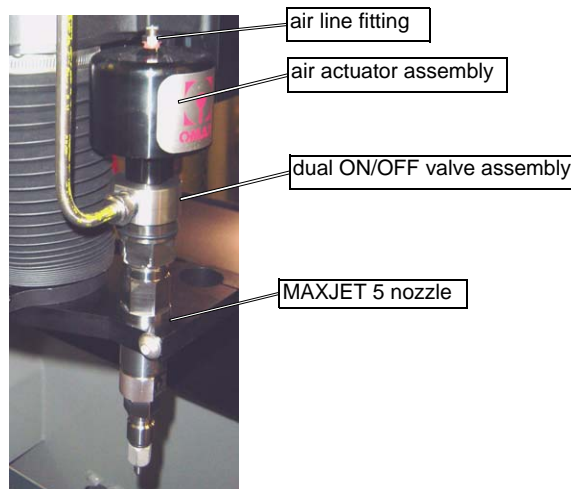

Figure 6-89: Dual ON/OFF Valve with the MAXJET 5 Nozzle
Figure 6-89 below illustrates an OMAX Dual ON/OFF Valve connected to a MAXJET 5 Nozzle:
6. Re-attach the air line to the **air line fitting** on top of the **air actuator assembly**. Refer to Figure 6-89.